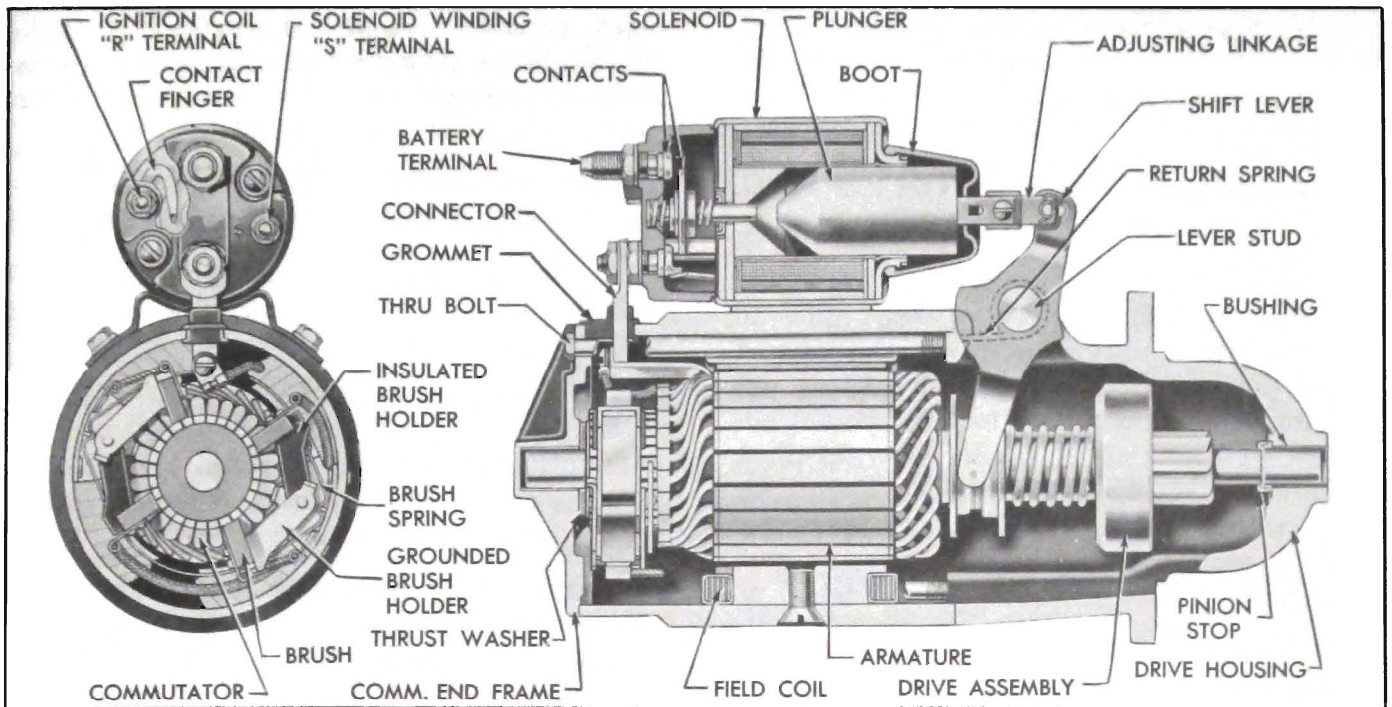

Figure 10-31—Cranking Motor—Sectional View
The cranking motor assembly consists of a motor, drive assembly, shift lever, and solenoid switch. See figure 10-31. It is mounted on the flywheel upper housing on the left side of engine.
The drive assembly pinion is moved into engagement with flywheel ring gear by action of the solenoid upon the shift lever, which engages the shift collar of drive assembly. The shift collar moves the drive assembly by pushing on the clutch spring, which serves as a cushion in case the pinion and gear teeth butt instead of meshing. The helical splines assist in obtaining proper pinion engagement. The drive pinion is pulled out of engagement, after engine starts, by action of the shift lever return spring. The shift lever is connected to the solenoid switch plunger by a link and adjusting screw. See figure 10-31.
plunger actuates the shift lever and drive assembly and it also closes the solenoid switch contacts by pressing against a push rod upon which a contact disk is mounted between two coil springs. One spring serves as a cushion to insure firm contact of the disk with two stationary contacts. The other spring pushes the disk away from the stationary contacts to break the circuit when the solenoid is demagnetized after the engine starts. One stationary contact is connected to the battery positive cable and the other is connected to the motor windings through a connector or bus bar. See figure 10-31.
2. Connect a 12-volt battery, a variable resistance, and an ammeter of 100 amperes capacity in series with the base of the solenoid "S" terminal on switch. See figure 10-31 for location of the "S" terminal.